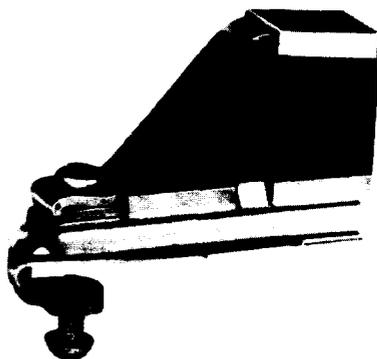

Figure 11 - 12B Guard (MD)
12-TYPE GUARD (MD) (Figure 11)
5.17 The 12-type guards are designed to protect special service lines appearing on frames that are equipped with 444A test jacks. The 12B guard (MD) (Figure 11) is the same as the 12A guard (MD), except that has a locking screw for maximum security. The 12-type guards have metal frames and brown phenolic fiber sides. These are replaced by the KS-20353, L1 guard as illustrated in Figure 12.